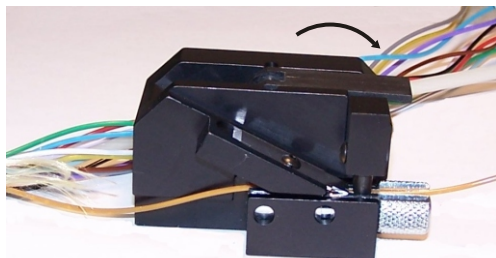

Fig.7
6. Rotate the locking lever to the right to lock the tool. Rotate the locking lever in a slow and deliberate motion. Avoid snapping it in place. (Fig.7)